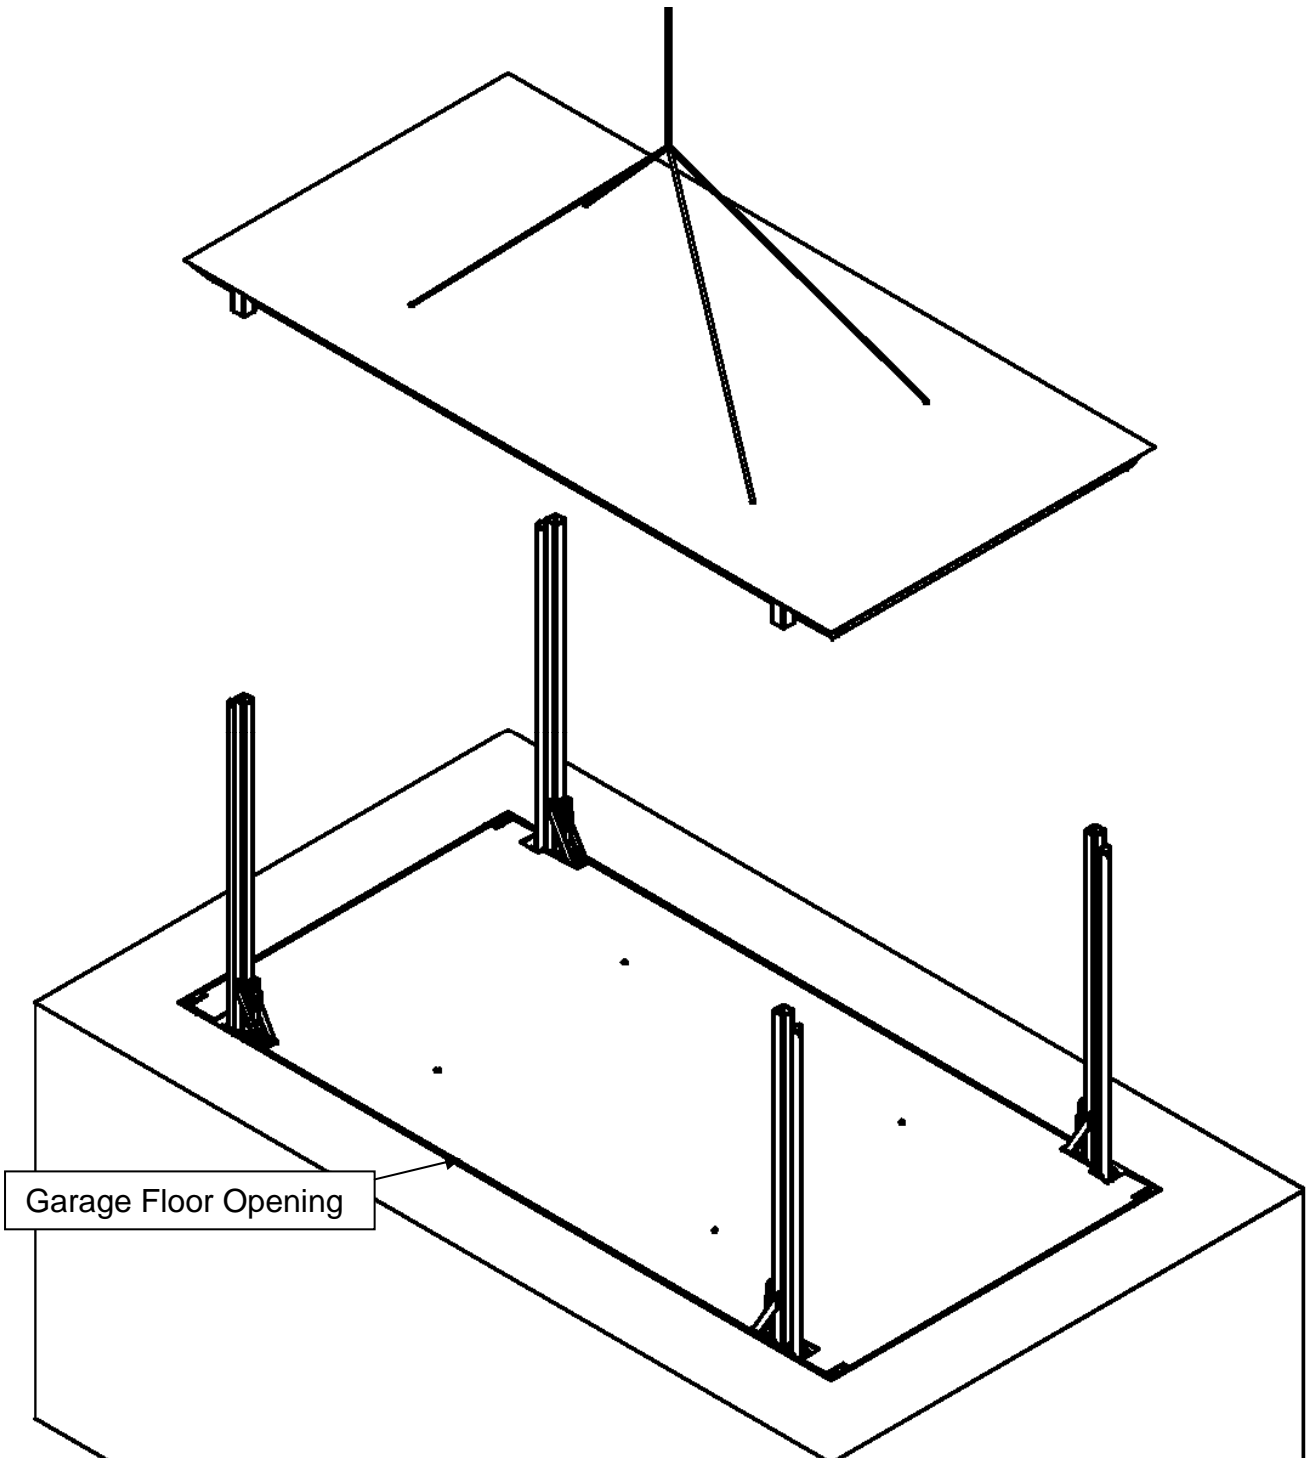

Figure 32 Canopy (Upper Deck) Installation Detail
J. ATTACHING THE UPPER DECK (Reference Figures 32 & 33)